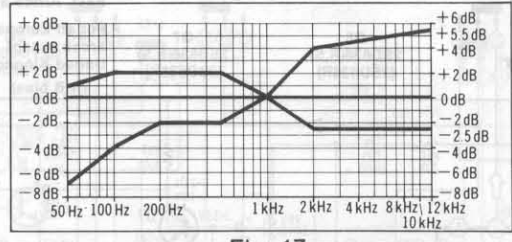

Fig. 17
8. Switch the tape selector to CrO₂, change test tape to QZZCRX, and record 50Hz, 100Hz, 200Hz, 500Hz, 1kHz, 4kHz, 8kHz, 10kHz and 12.5kHz signals. Then, playback the signals and check if the curve is within the limits shown in the overall frequency response chart for CrO₂ tapes (fig. 17).
9. Switch the tape selector to Metal, change test tape to QZZCRZ, and record 50Hz, 100Hz, 200Hz, 500Hz, 1kHz, 4kHz, 8kHz, 10kHz and 12.5kHz signals. Then, playback the signals and check if the curve is within the limits shown in the overall frequency response chart for metal tapes (fig. 17).